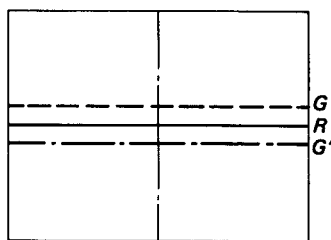

Fig. 3-18
- 4) Rotate the deflection yoke <G> so that the green horizontal center line is parallel with the red horizontal center line (Fig. 3-18) or " ℓ_1 " (" ℓ_3 ") is equal to " ℓ_2 " (" ℓ_4 ") (Fig. 3-19).
- 7) A) When the green horizontal center line is positioned as shown in Fig. 3-18; Adjust RV5506 (V. CENT <G>) to converge the green horizontal center line and red horizontal center line.